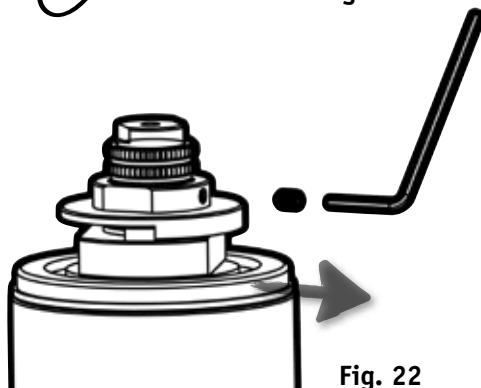
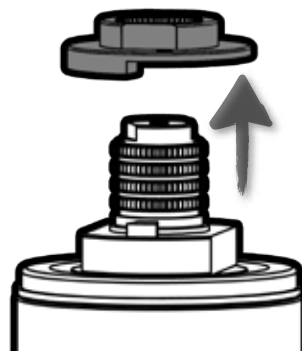

Fig. 22
Fig. 23
6) With the **CARTRIDGE SPINDLE 16** and **HANDLE STOPPER 12** turned fully clock-wise, use 1.5mm ALLEN KEY to remove the **HANDLE STOPPER SCREW 10** (**Fig. 22**) and **HANDLE STOPPER 12** (**Fig. 23**)